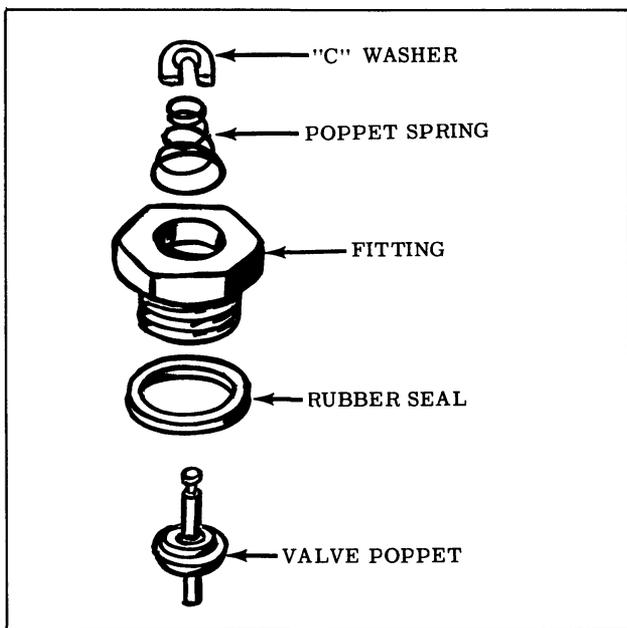

Fig. 7-46 Compensating Valve
3. If necessary to disassemble compensating valve assembly, refer to Fig. 7-46.